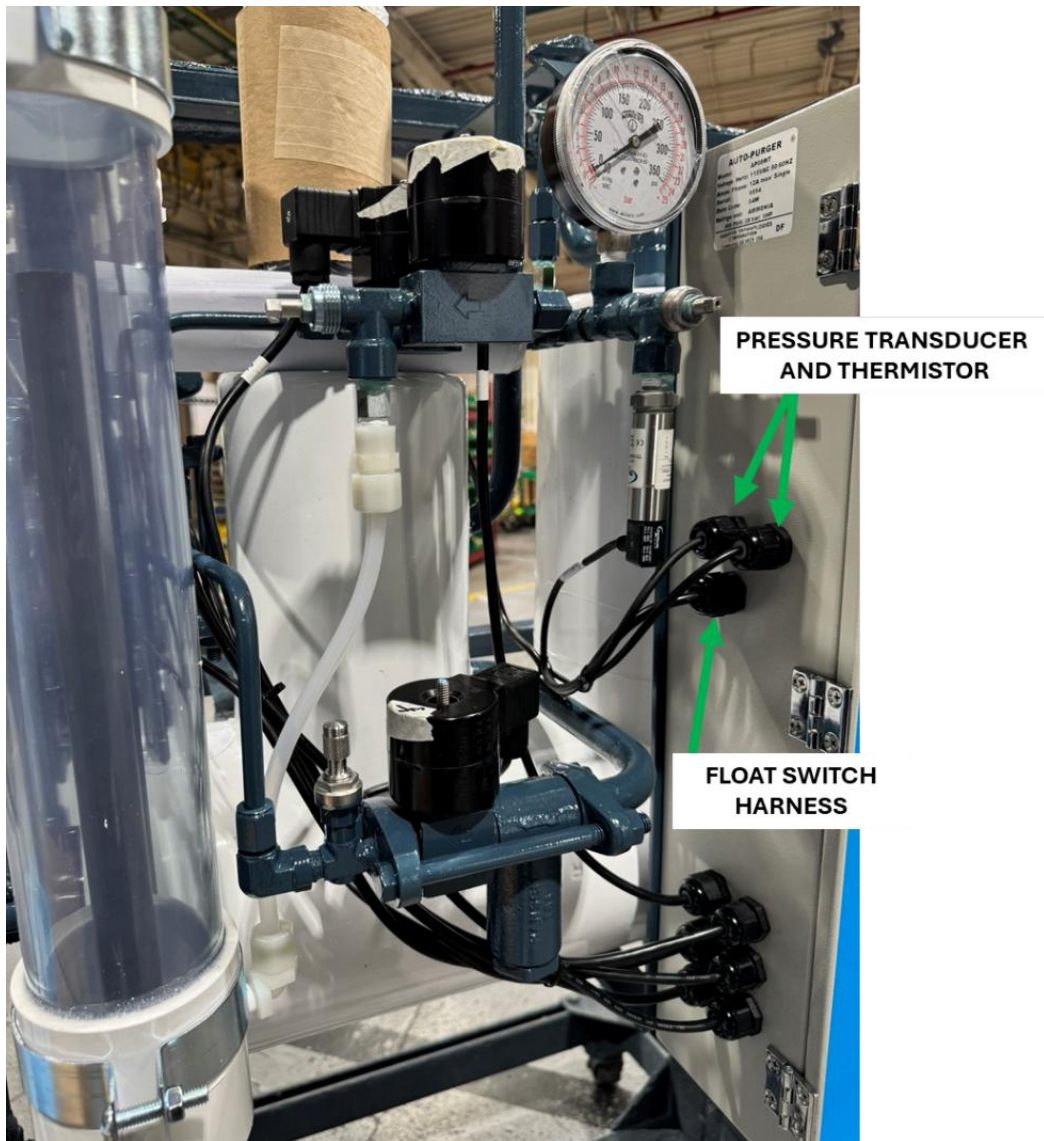

Figure 10. Sensor Location on Control Cabinet
- c. Locate the pressure transducer wire on the control box, Figure 10. Connect the mini-DIN connector to the PT and tighten with screw.
- d. Connect the DIN connector harness shown in Figure 10.